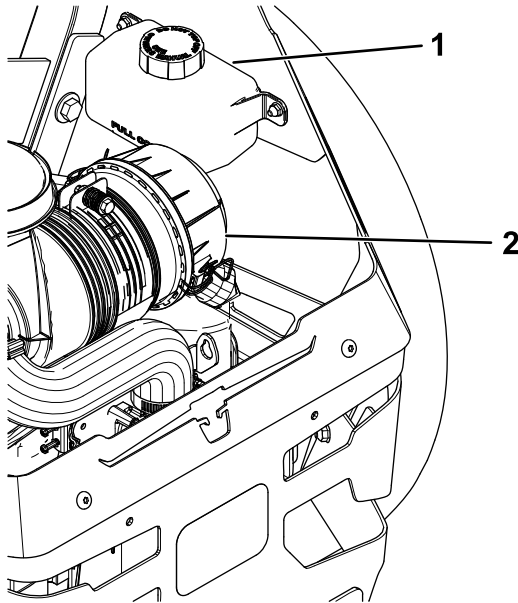

Figure 73
2. Check expansion reservoir and if necessary add Toro® HYPR-OIL™ 500 hydraulic fluid to the FULL COLD line (Figure 73).